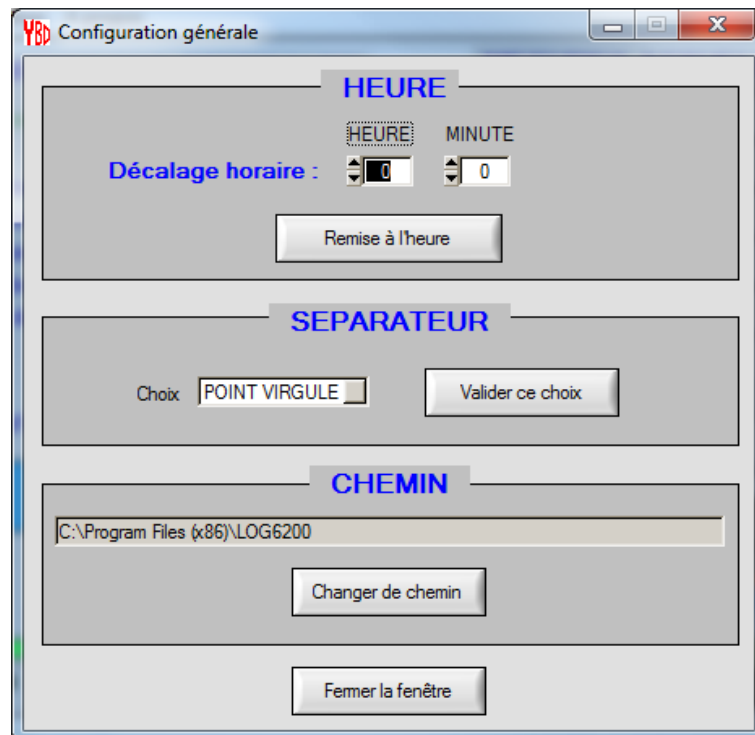

Figure 6. LOG6200 Menu: “*Configuration générale*” : setting up the clock and the default path for data saving
4. In the LOG6200 main window, select the “*Configuration*” menu, and then “*Configuration générale*”, which opens the window in Figure 6.